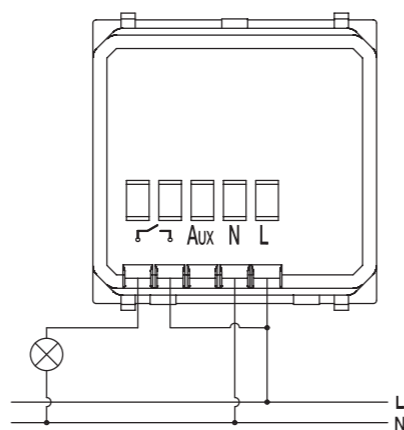

Figure 3: Basic wiring diagram
The electrical wiring of these devices is performed according to the wiring diagram shown in Figure 3.
1. Connect the device based on the wiring scheme. Figures 3, 4, and 5.